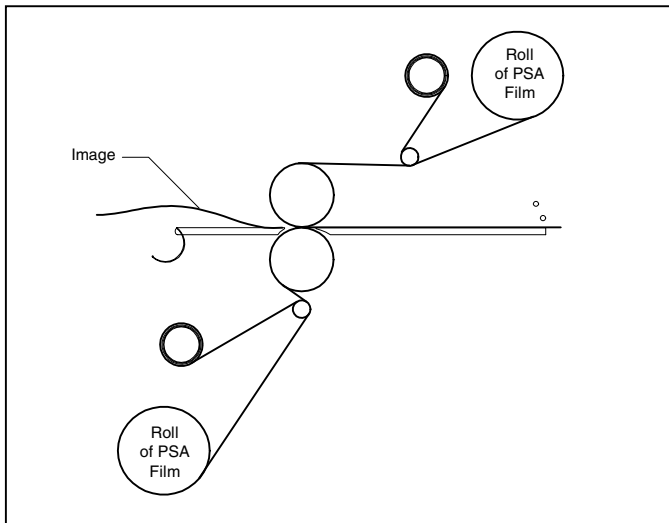

Fig. 36
#### TIPS FOR PSA ENCAPSULATION (Figure 36)
1. Load the laminator as illustrated in Figure 36.